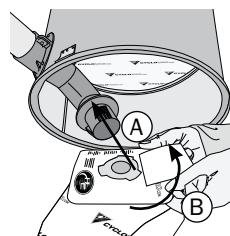

figure 18
4. Ensure adequate sealing by inserting bag as far as retention ring (**figure 18 - A**). Rotate bag 20° (**figure 18 - B**) to ensure tabs on bag adaptor are no longer aligned with the slots in the bag collar.